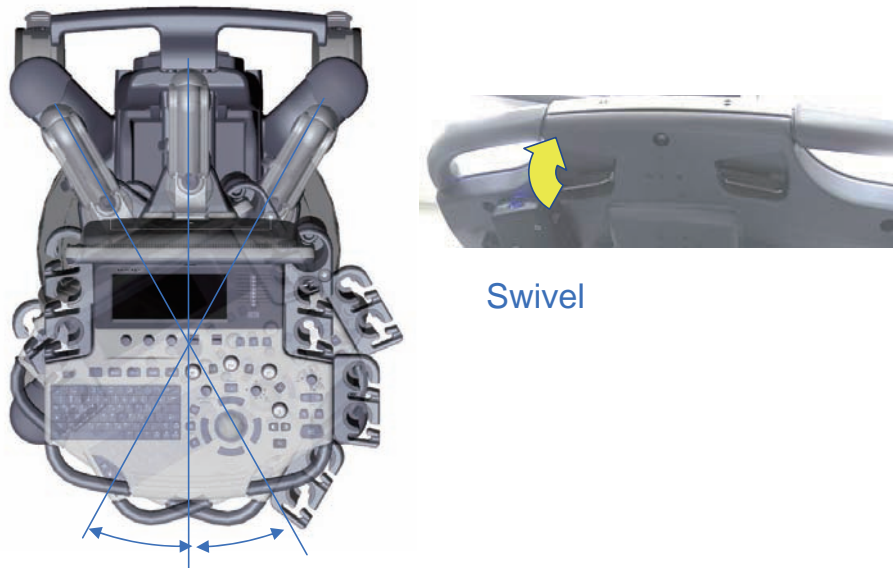

Figure 4-7 OPIO Swivel
- 1.) Hold Swivel Lock lever under OPIO. (see: Figure 4-7)